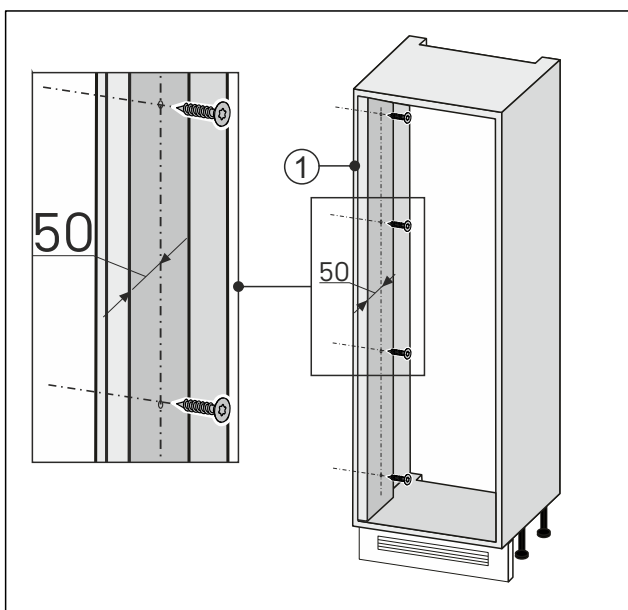

Fig. 90
- Screw the wall levelling on the side where the door opens Fig. 90 (1) to the unit niche.